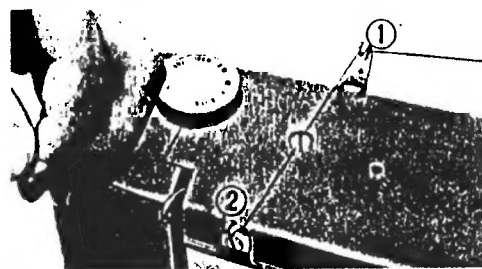
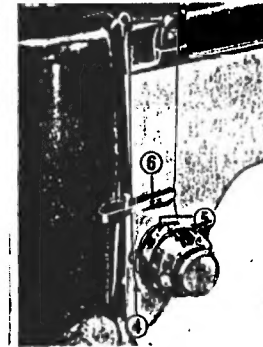

Fig. 10A
Fig. 10D
1. Turn the balance wheel by hand toward you until the take up lever is at highest point. See Fig. 10A.
2. Place a spool of thread on the spool pin. Pass the thread through the upper thread guide (rear) ① and upper thread guide (front) ② and down between the upper thread tension discs ③ from the right hand side. See Fig. 10A, B.
3. Now bring the thread up and under the thread check spring ④ raising it (check spring) so that the thread will fall into the hook shaped guide ⑤.
4. Carry the thread under the thread guard bar ⑥ from right to left and then up to and into the eye of the thread take up lever ⑦ from right to left and down through the upper thread guard bar ⑧ and the thread guide ⑨ ⑩. See Fig. 10D.